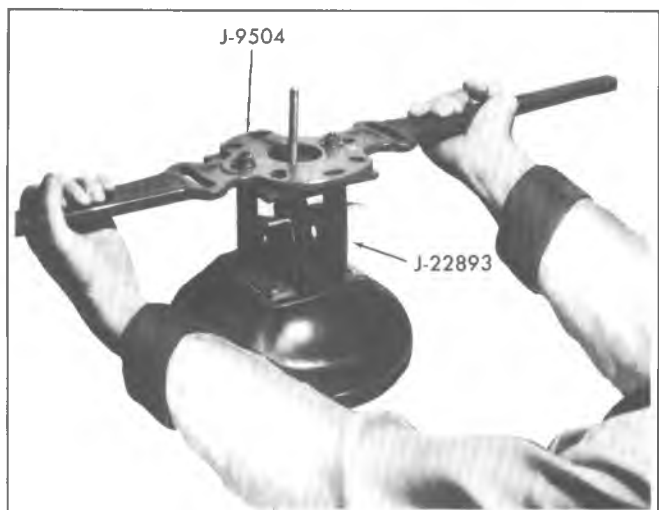

Fig. 5-3C-- Separating Housings With Tool J-9504
a. **Straight Mounting Bracket (Fig. 5-3C)** - Place Spanner Wrench J-9504 over studs on rear housing and attach with nuts and washers. Draw nuts down tight to eliminate bending or damaging of studs.